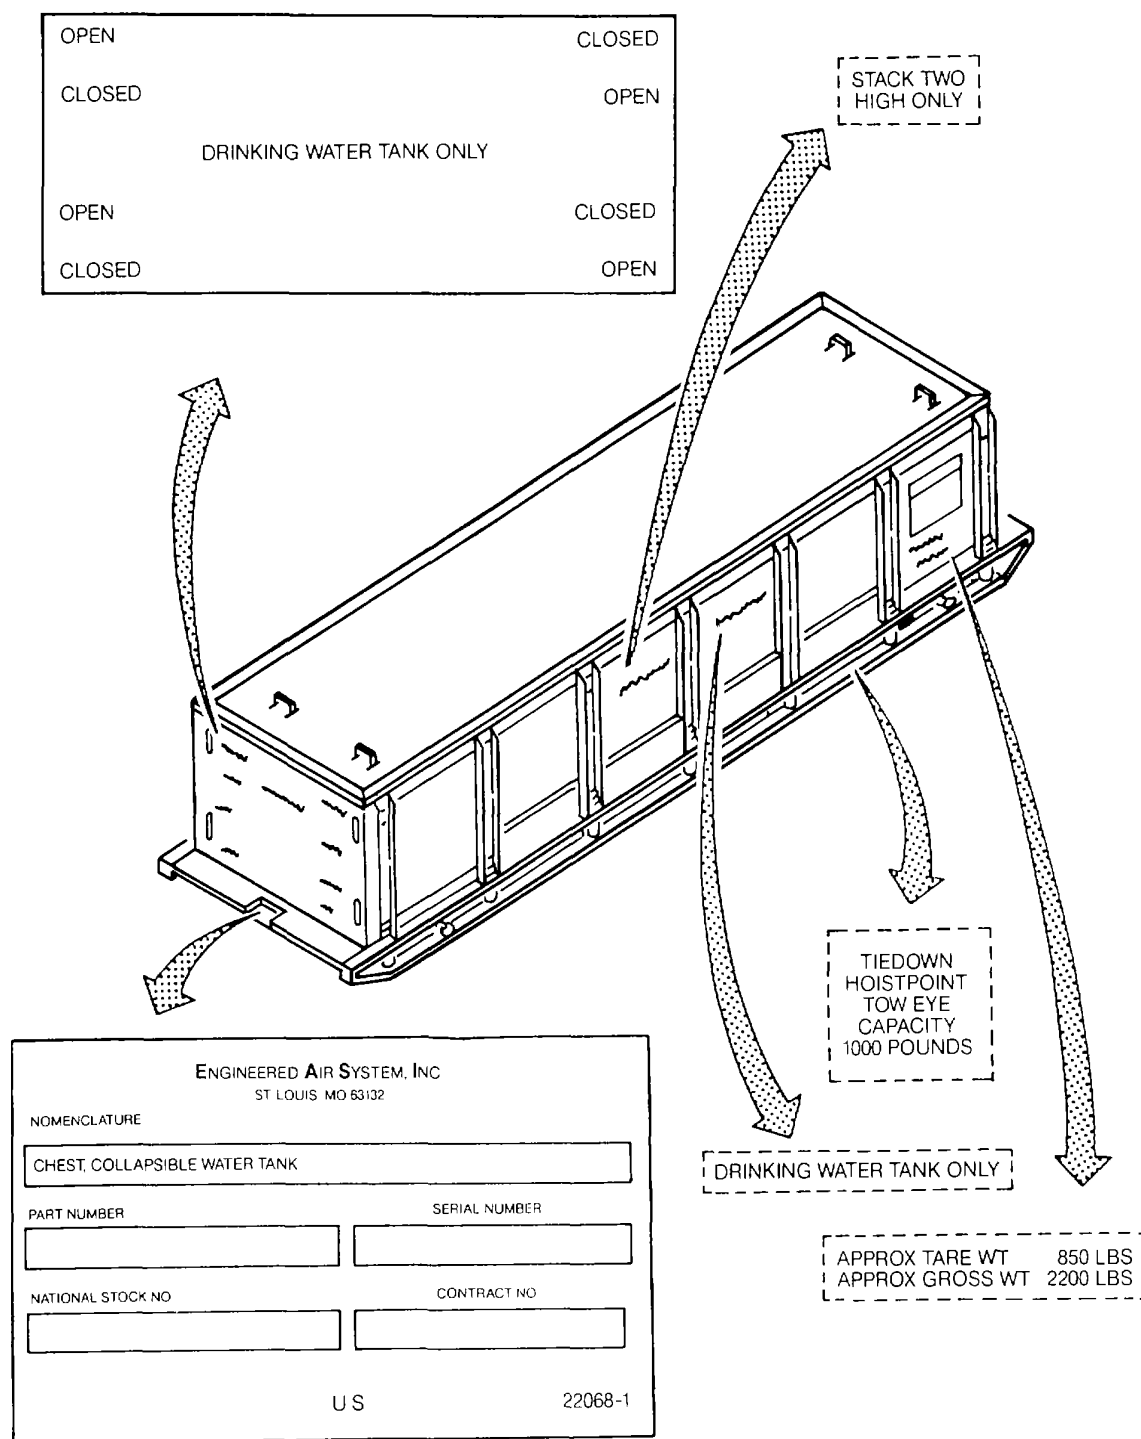

Figure 2-25. Decals and Instruction Plates.
- f. Water Tank Chests. Refer to figure 2-25 for decals and instruction plates on the tank chests.